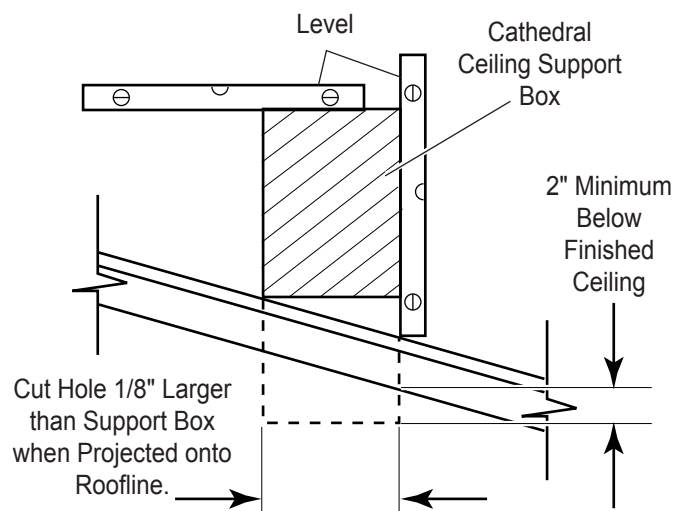

Figure 28c - Cathedral Ceiling Support Box Installation
2. Cut the hole  $\frac{1}{8}$ " larger than the support box outline. See Figure 28c.
3. Lower the support box through the hole in the roof until the bottom of the box extends at least 2" (51 mm) below the ceiling. See Figure 28c. Align the support box vertically and horizontally using a level. Temporarily tack the support box in place through the inside walls and into the roof sheathing.